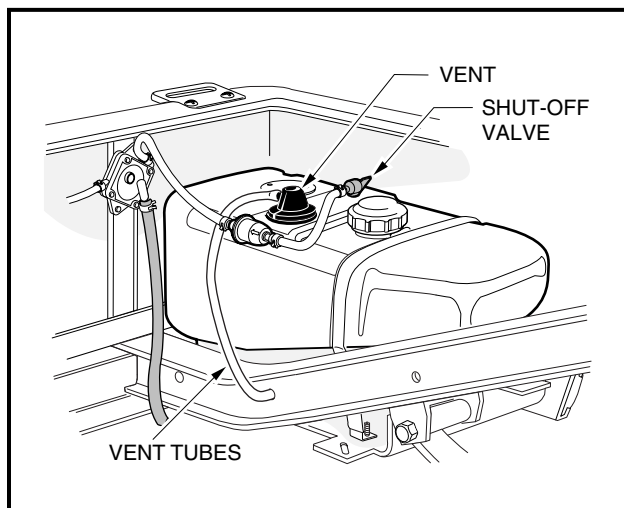

Figure 31 Fuel Tank
- If the vehicle has an all-weather enclosure installed, be sure the fuel tank is properly vented as shown (Figure 31).